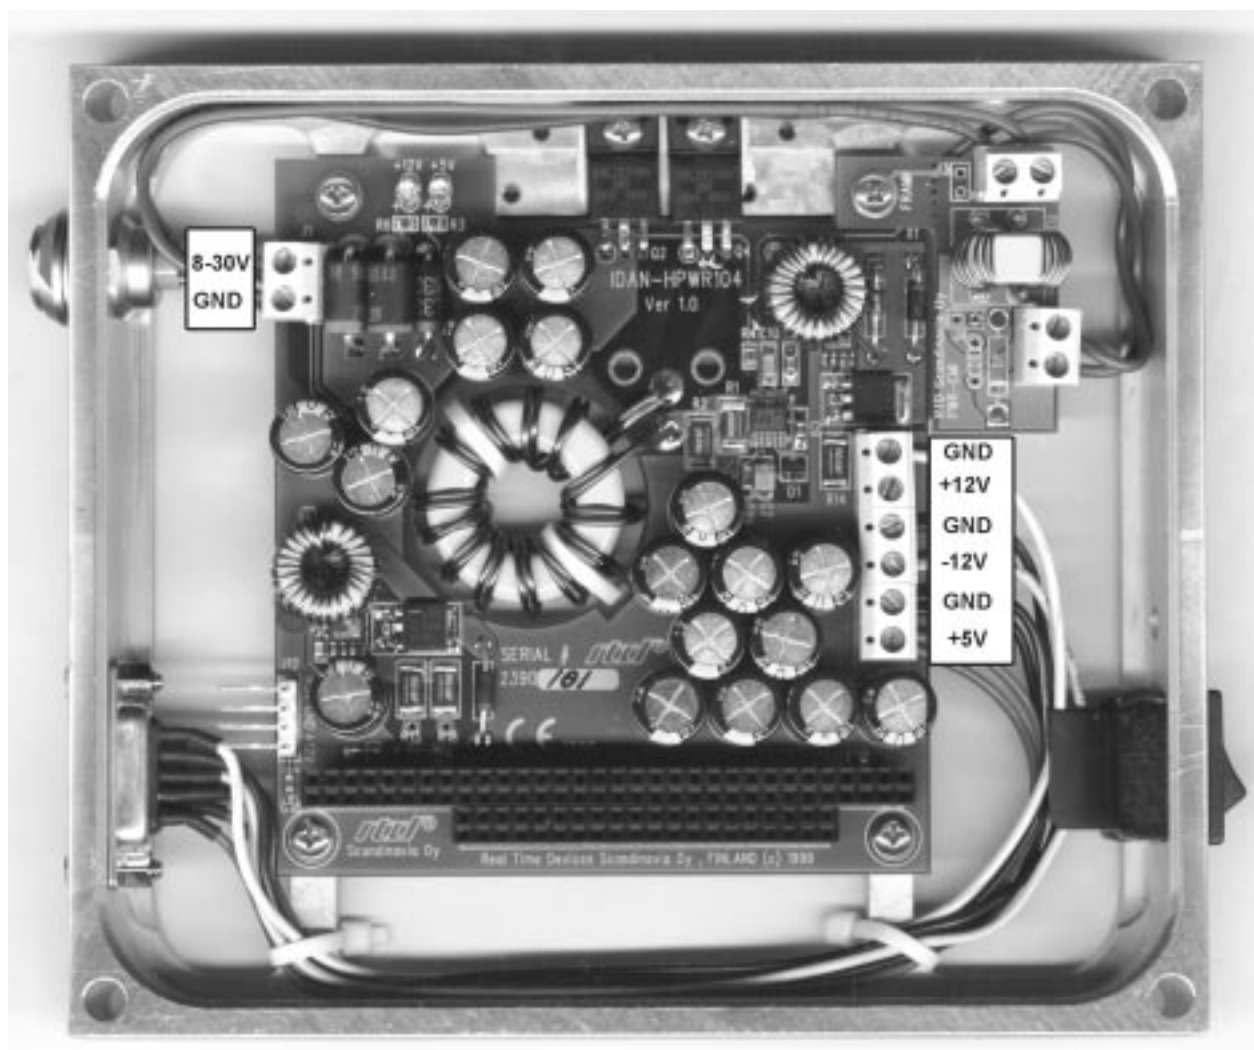

Fig. 2-2 HPWR104HR power supply power connections
- Fig. 2-2: HPWR104HR power supply power connections